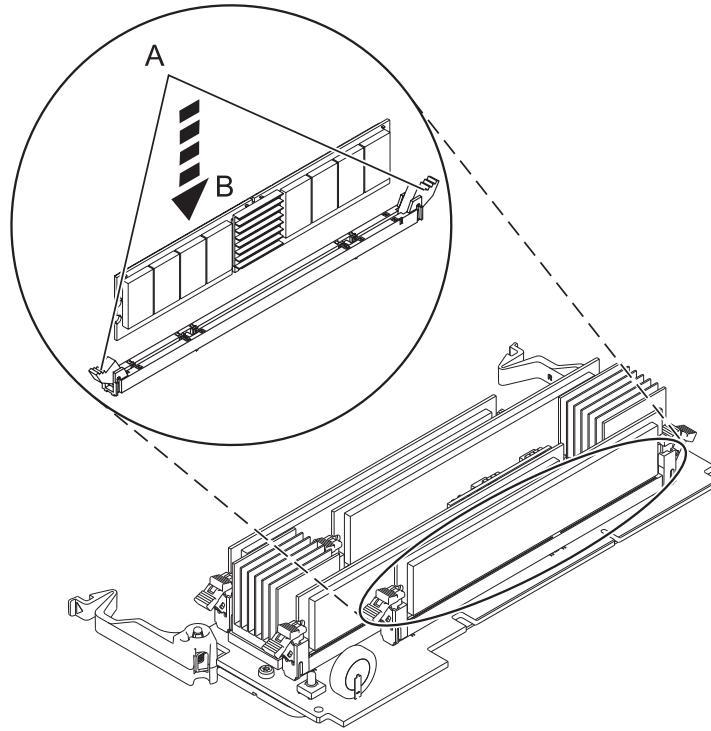

Figure 11. Replacing a memory module
12. Ensure that the connector locking tabs (**A**) are pushed open into the unlocked position, as shown in Figure 11 on page 23, before installing a new memory module.